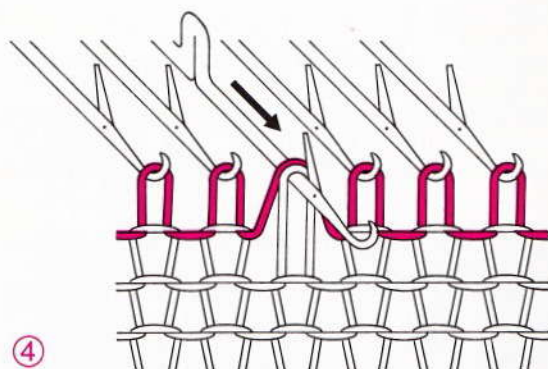

Fig. 215
- Push needle to D position so that the stitch and the yarn slip behind the latch (fig. 215).